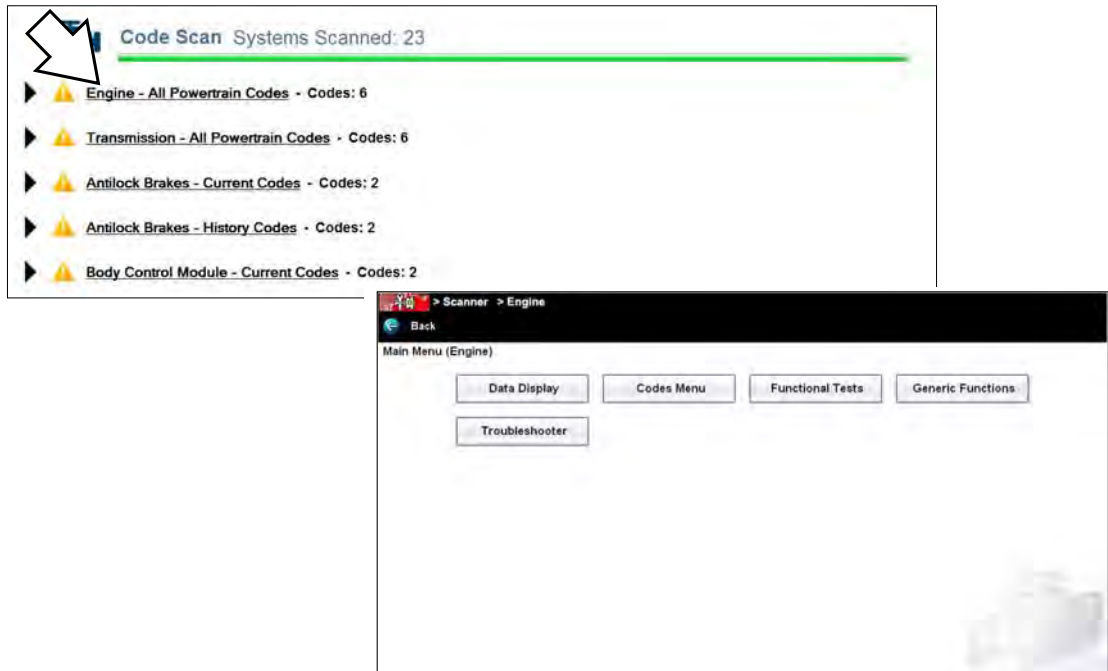

Figure 4-18 System icon (opens Main Menu)
- **A list of all the systems analyzed with DTCs totals.** A categorized system list with DTC totals is displayed in the order they are scanned. To view the main menu for a system in the list, select the system title (Figure 4-18).